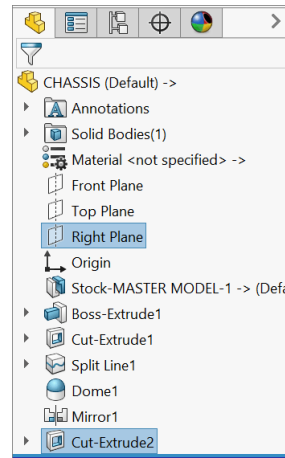

Fig. 36
- Step 1. Ctrl click **Right Plane** and **Cut-Extrude2** feature to select plane and feature, **Fig. 36**.